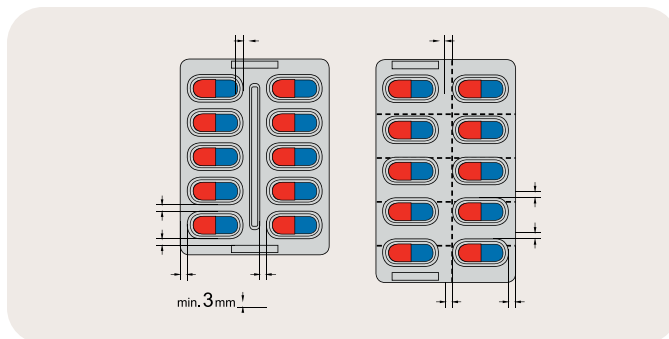

Figure 7A
- Strengthening ribs or elements⁷ to reinforce the blister flatness may be designed into the blister card to make cartoning easier (Figures 7A and 7B).
- When designing the layout for blister cards made with Aclar laminate, the reinforcing ribs work best when designed perpendicular to the machine direction (MD). The ribs should have a width to depth ratio between 2:1 and 3:1 to avoid under forming. Sufficient air evacuation ports must also be included in the rib design to achieve full forming.
- The recommended minimum seal flange width is 3 mm (Figures 7A and 8). If the blister card size does not allow for this; contact a Solstice technical representative to discuss your options for maintaining a quality, tight seal. Solstice will coordinate with you and your tooling supplier to recommend sealing alternatives for your blister card.